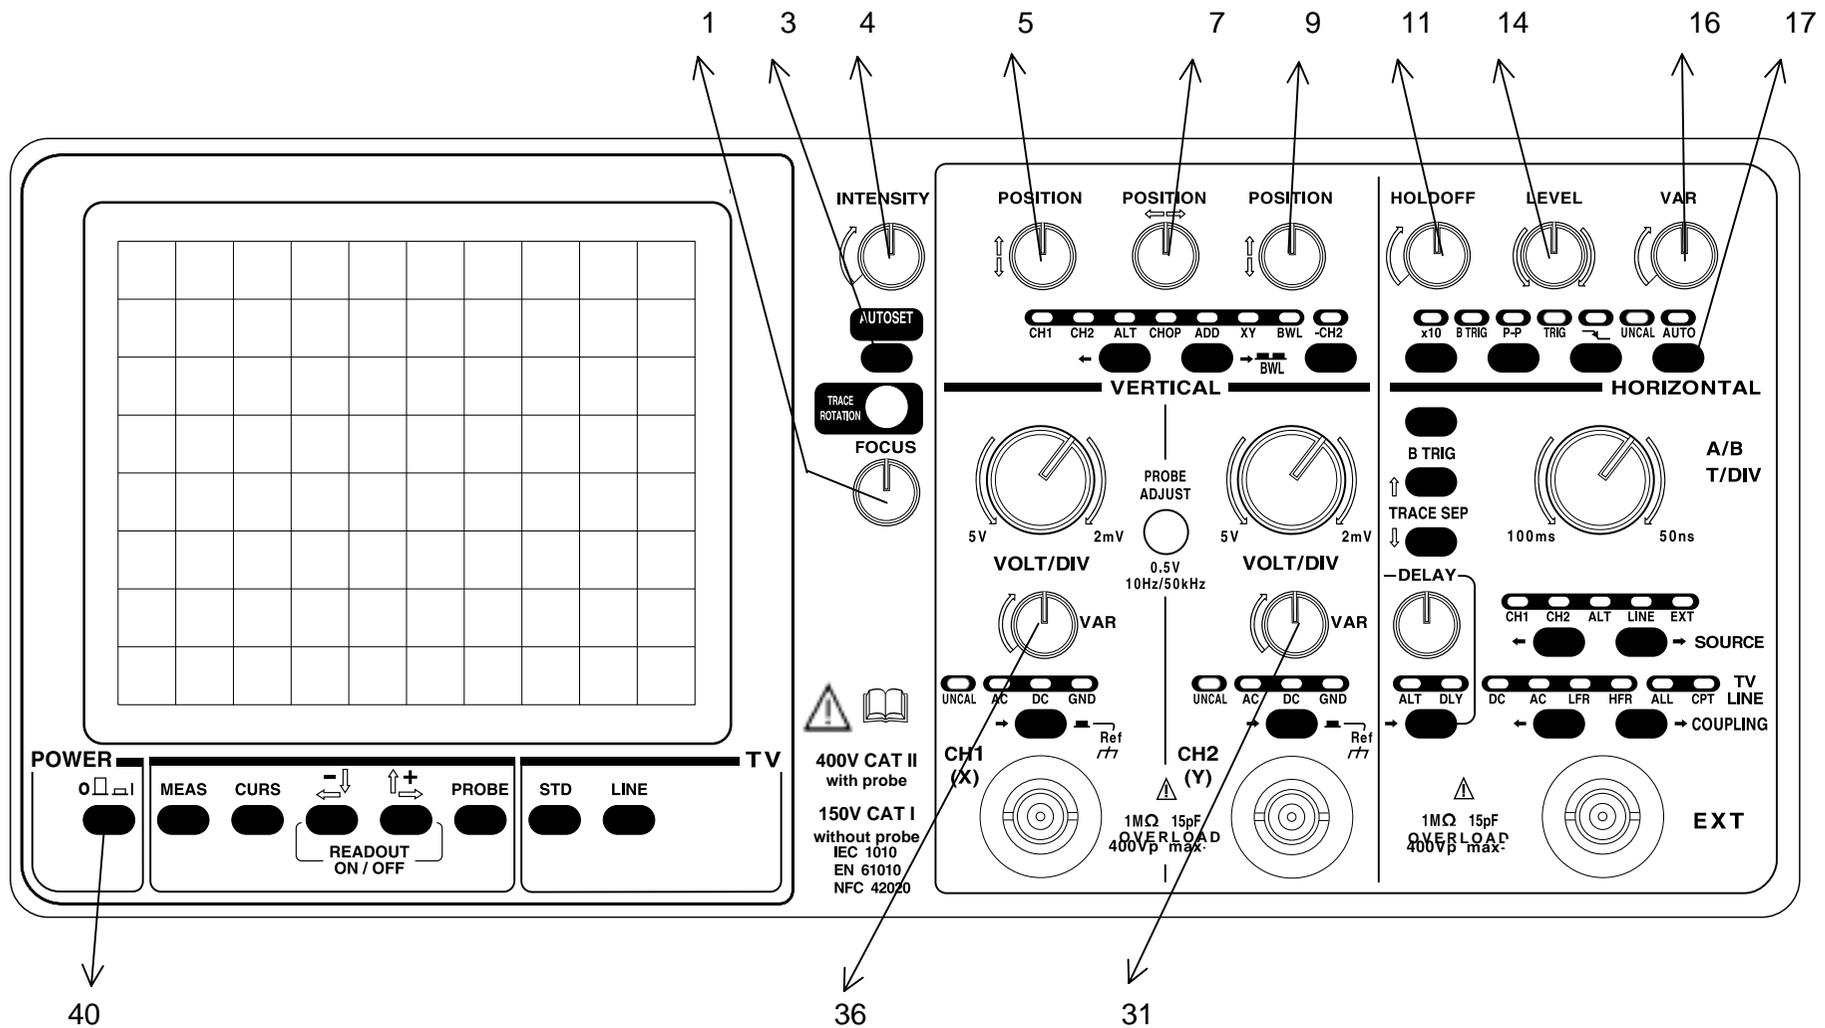

figure 1
- Press the POWER on/off key (40) : the last stored configuration is reinstated.
- Validate the key AUTO (17).
- Adjust the intensity (4) and focus (1) (figure 1).
- Briefly press the AUTOSET key (3) (see § 4.1.).